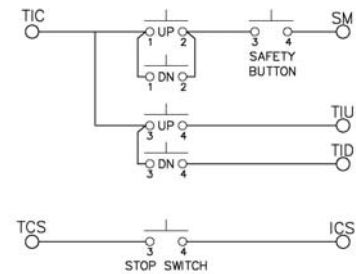

Figure 2-10
3. Wire temporary run box as per Figure 2-10.